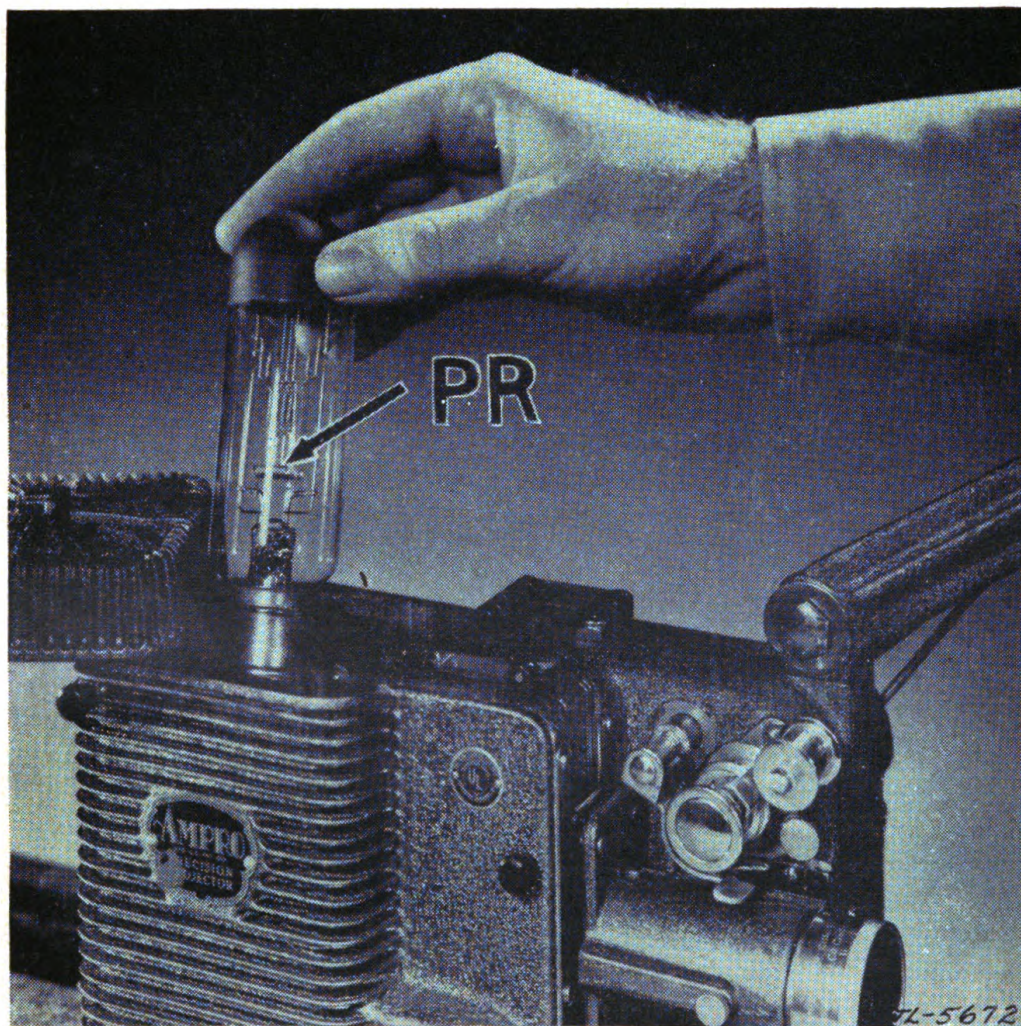

FIGURE 60.—Removing Ampro YA projection lamp.
a. Ampro YA.—(1) To replace the projector lamp, remove the two cover nuts and lift off the housing cover. Rotate the lamp to the left and lift out. Wipe fingerprints from the new lamp and position the new lamp and the cover. (See fig. 60.)